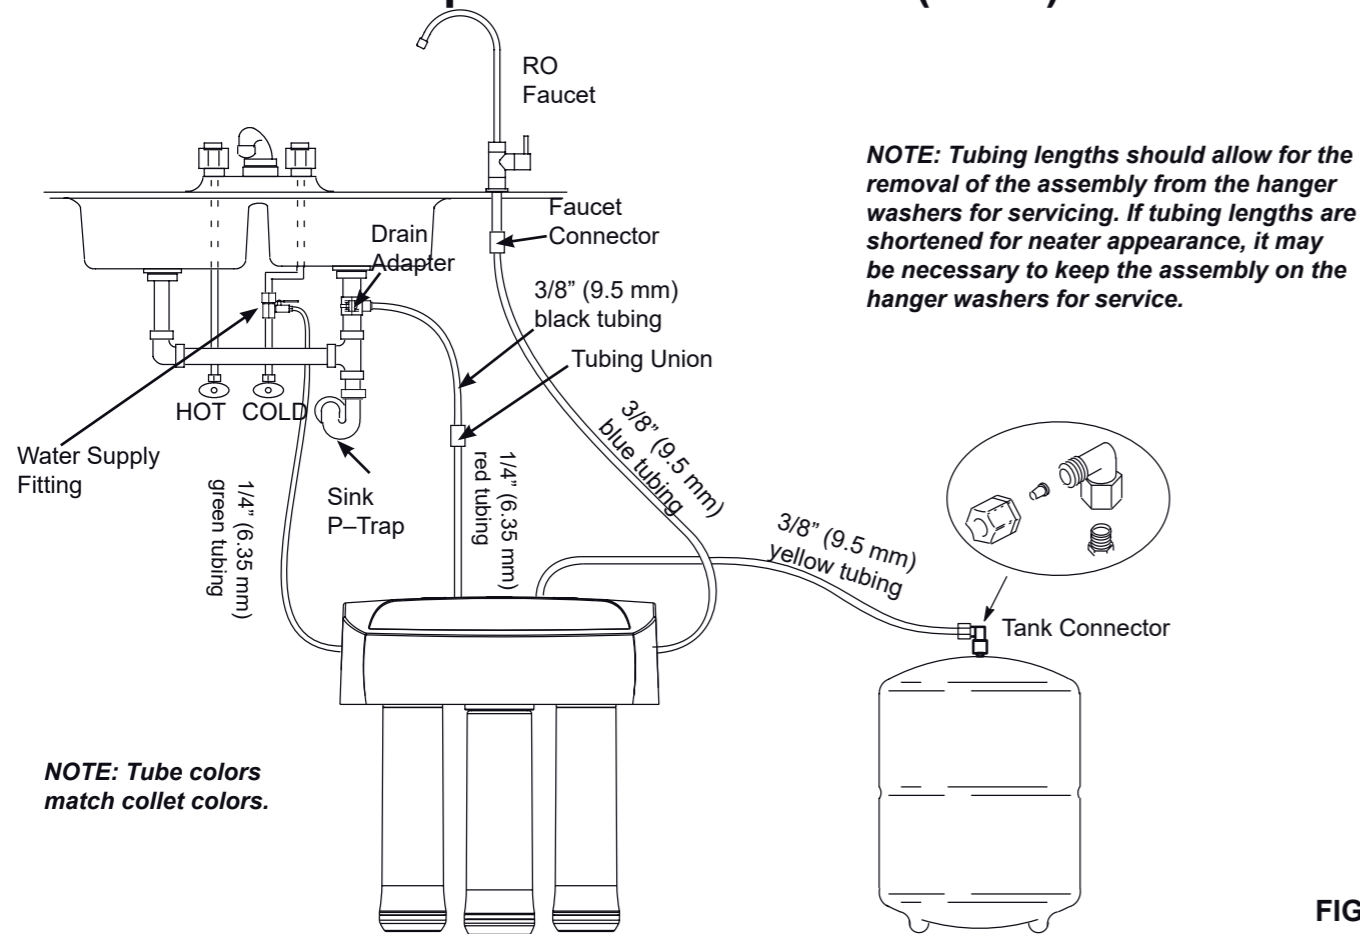

FIG. 20
2. Route one end of the green tube to the water supply fitting on the cold water pipe. See Fig. 20.
2. Route one end of the blue tube to the RO faucet connector. See Fig. 20.
2. Route the other end of the red tube to a spot between the RO filter assembly and the drain point. See Fig. 20.
4. Insert all the way into the appropriate-sized (1/4") push-in fitting of the tubing union (Fig. 20). See Figs. 16 & 17.
7. Route the other end of the black tube to the drain adapter (Fig. 20). Cut this tube as needed to route it as straight as possible, without loops, dips, or kinks.
2. Route the loose end of the yellow tube to the fitting on top of the storage tank. See Fig. 20.